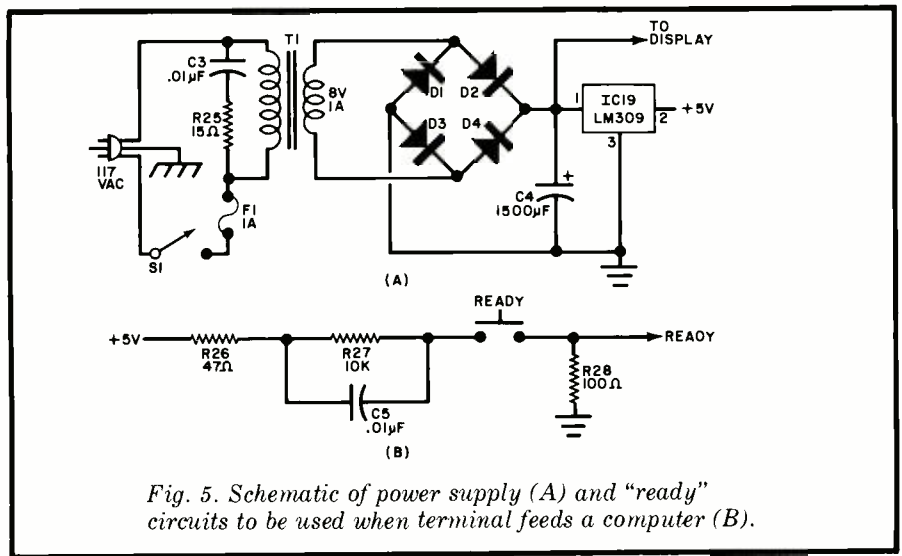

Fig. 5. Schematic of power supply (A) and "ready" circuits to be used when terminal feeds a computer (B).
**Power Supply.** Shown in Fig. 5 is the power supply for the VLCT. The dc voltage from  $T1$  and the bridge rectifier consisting of  $D1$  through  $D4$  is applied to 5-volt regulator  $IC19$ . (The +5-volt and ground lines go to the IC's as shown in the table.) The regulator is current and temperature protected. Capacitor  $C4$  filters the output of the bridge.